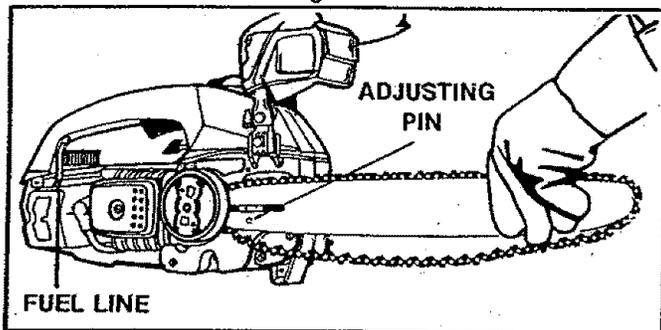

Figure 5
- g. Lower the Guide Bar; fit the adjusting pin into the small hole below the large slot; fit the large slot on the mounts on either side of the Bar Stud. Figure 5.
NOTE: Check to be sure fuel line is in place. Figure 5.